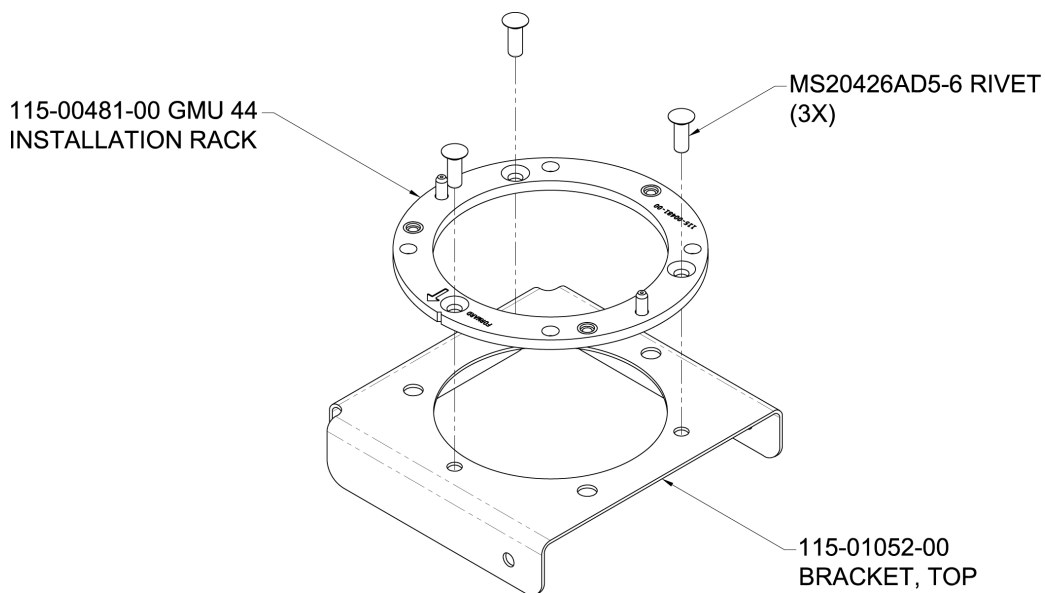

Figure A-4 Lancair IV/IV-P GMU 22 Mounting Bracket
1. Rivet the GMU 22 Installation Rack (115-00481-00) to the Top Bracket Assembly (115-01052-00) as shown in Figure A-4.